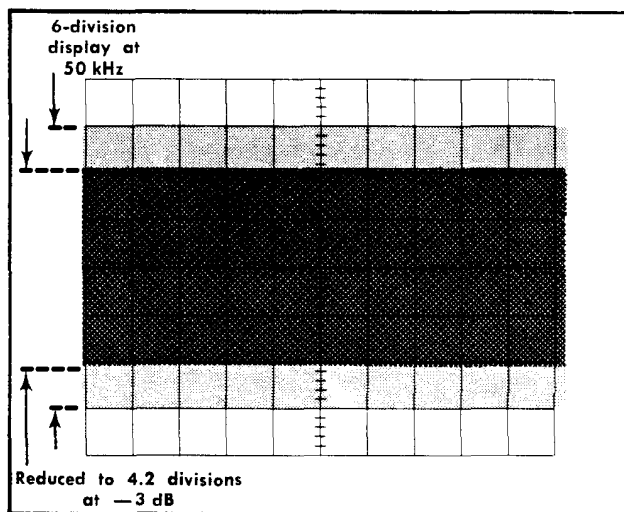

Fig. 5-8. Typical CRT display when checking vertical frequency response.
d. Without changing the output amplitude, increase the output frequency of the constant-amplitude generator until the display is reduced to 4.2 divisions ( $-3$  dB point; see Fig. 5-8).
- i. Without changing the output amplitude, increase the output frequency of the constant-amplitude generator until the display is reduced to 4.2 divisions ( $-3$  dB point; see Fig. 5-8).
- d. Without changing the output amplitude, increase the output frequency of the constant-amplitude generator until the display is reduced to 4.2 divisions ( $-3$  dB point; see Fig. 5-8).